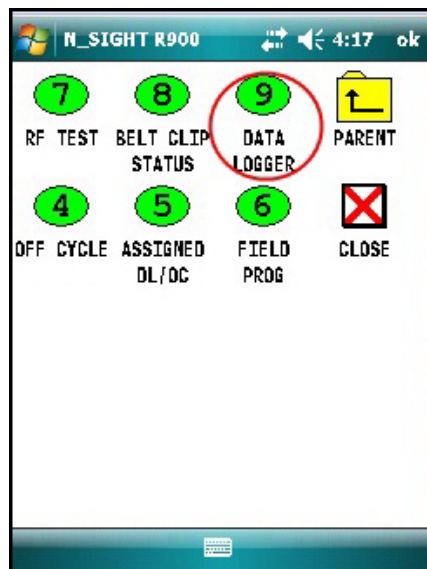

Figure 48 Data Logger Option
- 3 Click **DATA LOGGER** (option 9). See Figure 48.
- 3 Click **OFF CYCLE** (option 4). See Figure 48